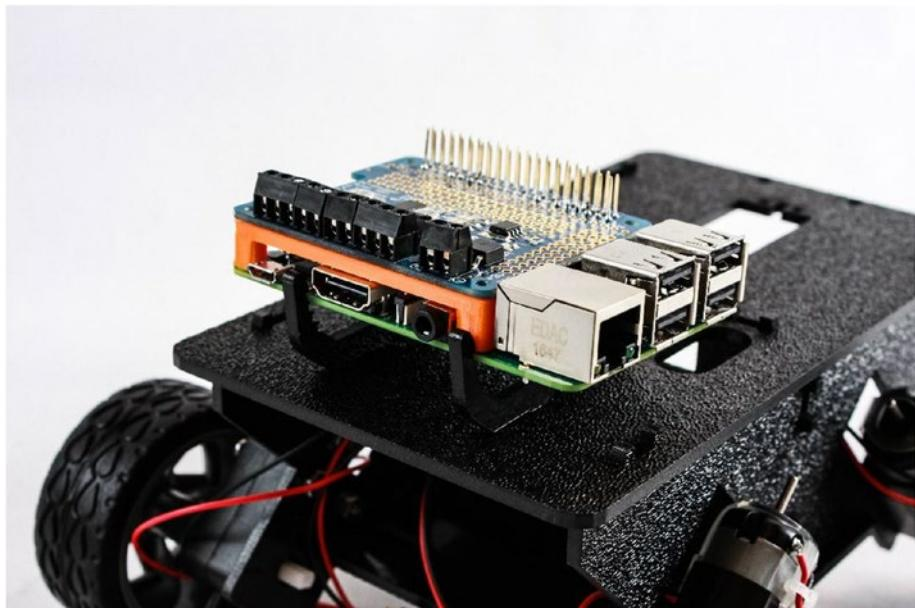

Figure 7-10. Raspberry Pi mounted in the clips
1. Snap the Raspberry Pi into the clips on the top plate (see Figure 7-10). The Pi should be held firmly in place by the top barbs.